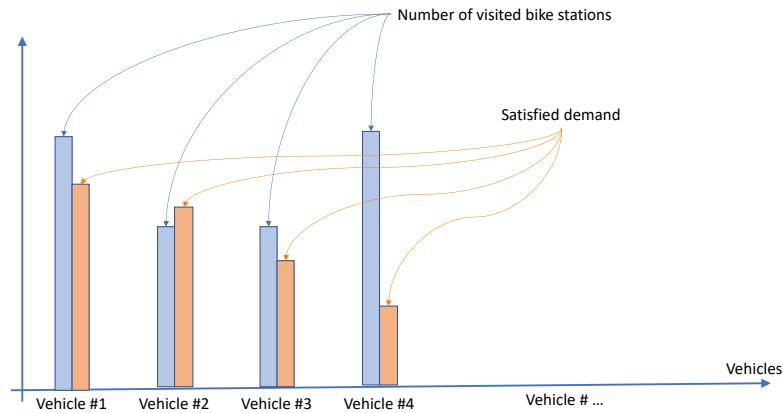

Figure 1: Demand Decrease and Number of Vehicles
4. The output of your Greedy_BRP heuristic, with a summary of your results in Table 1 and Figure 1. Specify the characteristics of the computer used for your experiments.
Question 7. Provide the results of algorithms Greedy_BRP1 (Part I) and Greedy_BRP2 using the same diagrams as for algorithm Greedy_BRP1 in Part I, i.e., Table 1 and Figure 1 should contain the average results over your 10 data sets (generated in Part II). Therefore, it means providing 2 tables and 2 figures for summarizing the results.